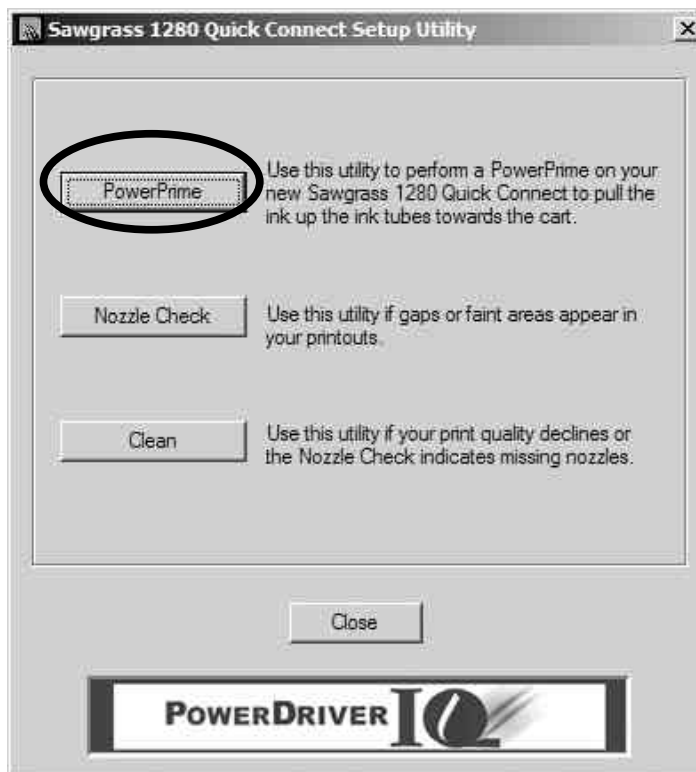

Fig 2
- v. On the Setup Utilities screen click the PowerPrime button; see Fig 2.